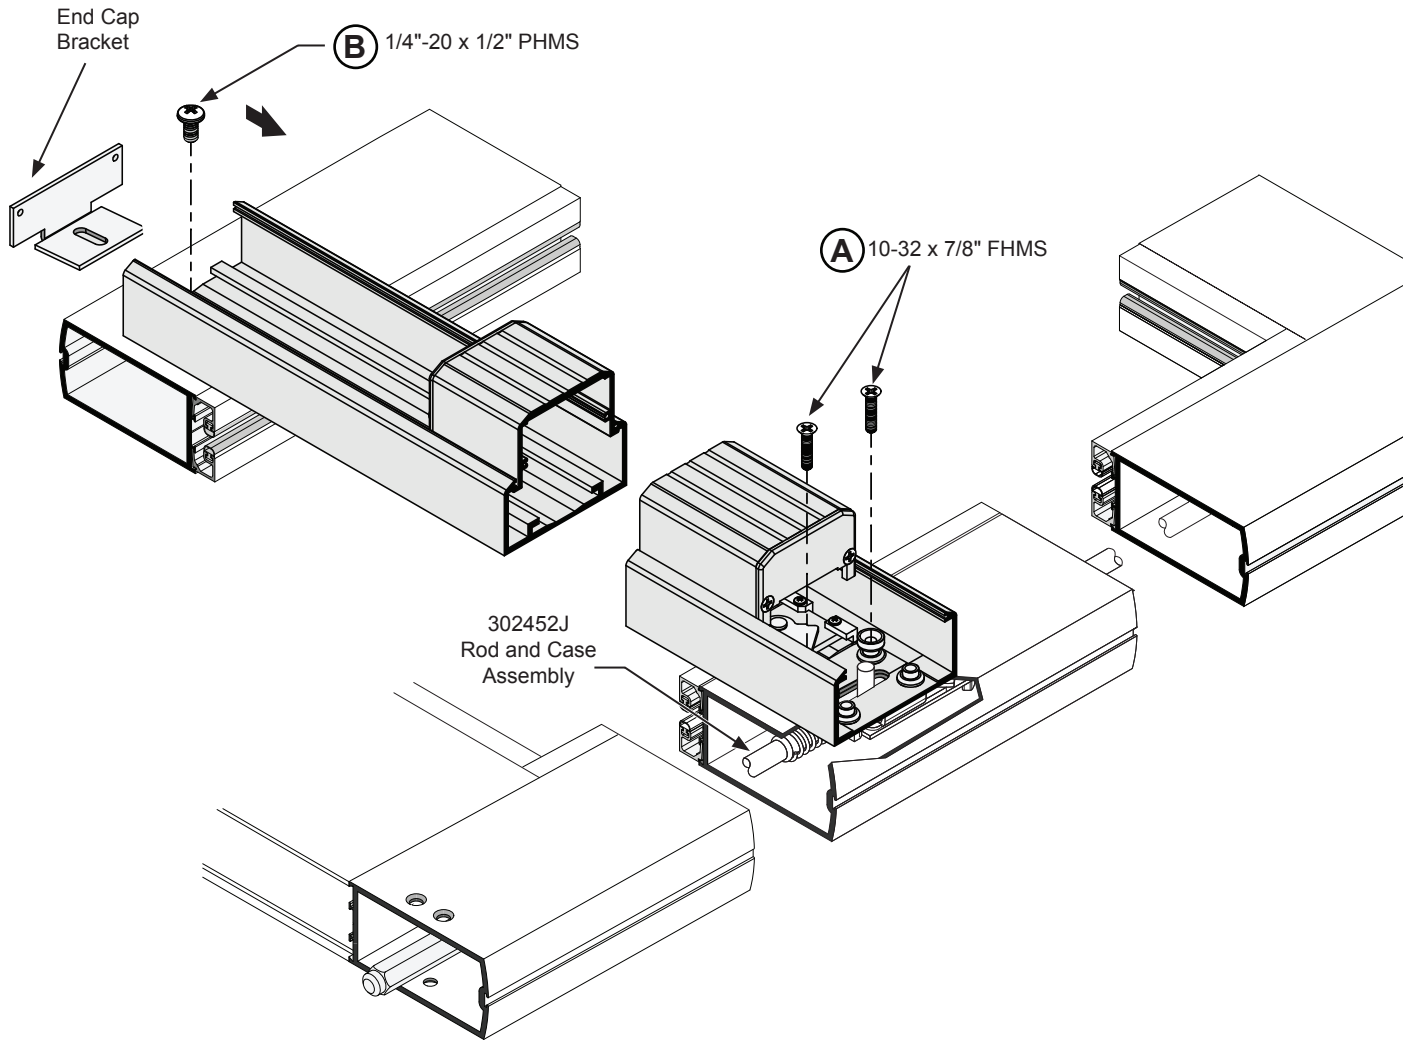

FIG. 13
1. Attach panic exit device to door with **(A)** (2) 10-32 x 7/8" FHMS on active stile and **(B)** (1) 1/4"-20 x 1/2" PHMS at end cap bracket on inactive stile as shown (Fig. 13).